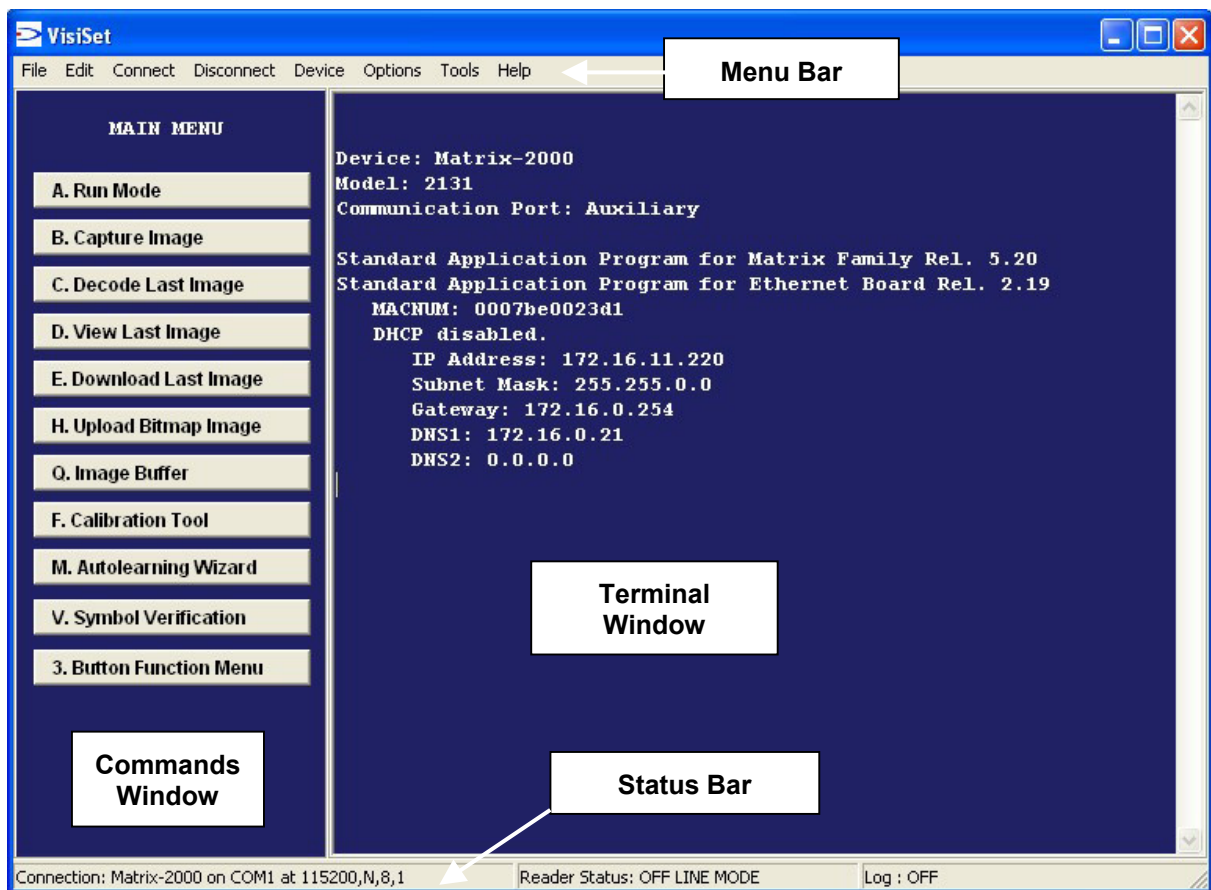

Figure 94 - Main Window
Upon connection, Matrix-2000™ exits Run Mode and displays the Main Menu on VisiSet™ with all the commands necessary to monitor your reader's performance. You can select these commands using the mouse or by pressing the key corresponding to the letter shown on the button. See Figure 94.
The **Options** item from the VisiSet™ menu (see Figure 94) presents a window allowing you to configure:
6. Close the Parameter Setup window and press **Disconnect** on the VisiSet™ menu bar (see Figure 94) or launch **Run** Mode from the VisiSet™ Main menu.